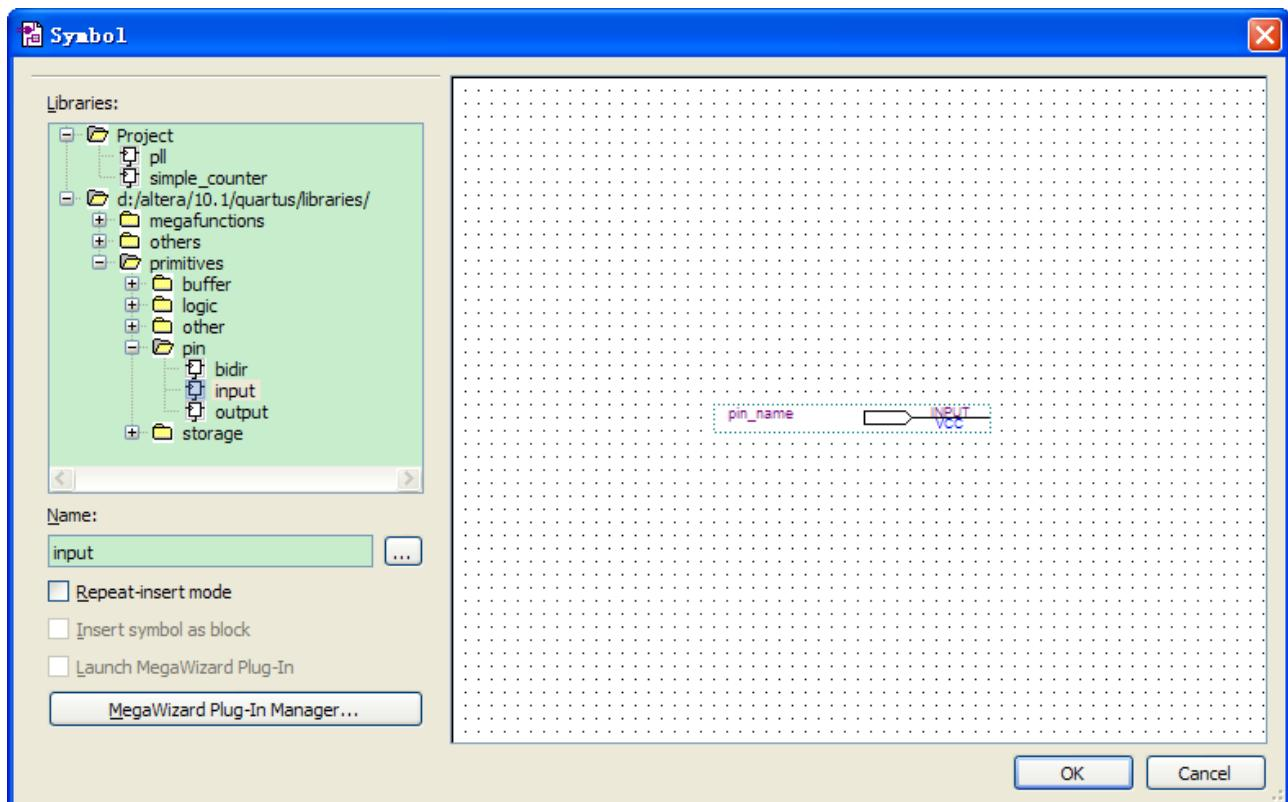

Figure 6-28 Input pin symbol
2. Under Libraries, select quartus/libraries > primitives > pin >input. See **Figure 6-28**